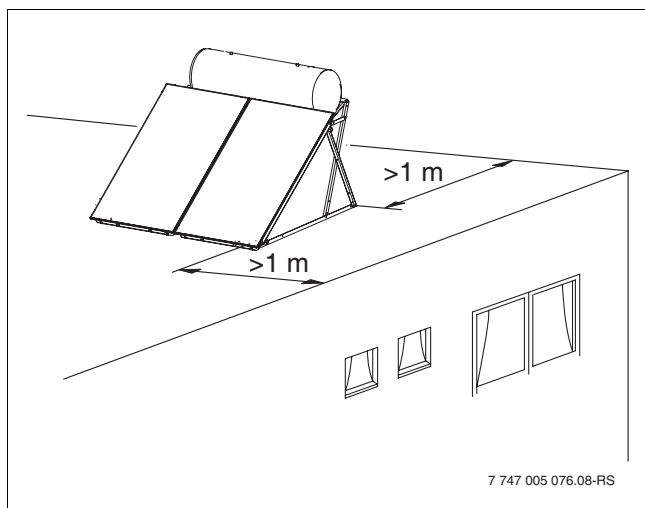

Fig. 8 Distance from roof perimeter (here 300 l system)
- Before commencing installation, ensure that a clearance of at least one metre is allowed between the flat roof frame and the roof perimeter (→ Fig. 8).